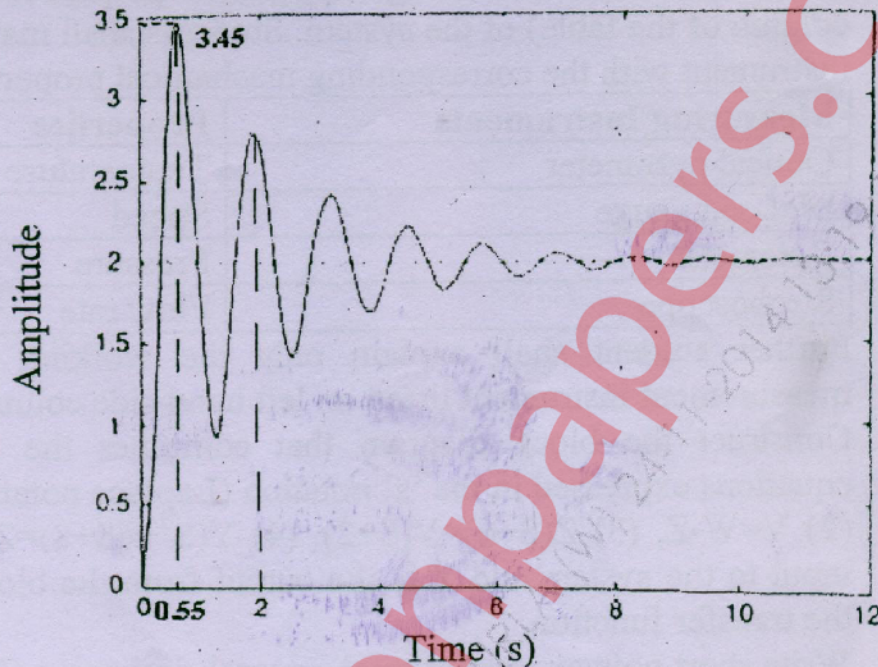

Figure 1
- Q.3(A) With a neat sketch, explain the constructional feature and working of (i) piezoelectric accelerometer, (ii) Ionization gage for pressure measurement 10
- (B) Figure 1 shows the unit step response of a second order system. 10